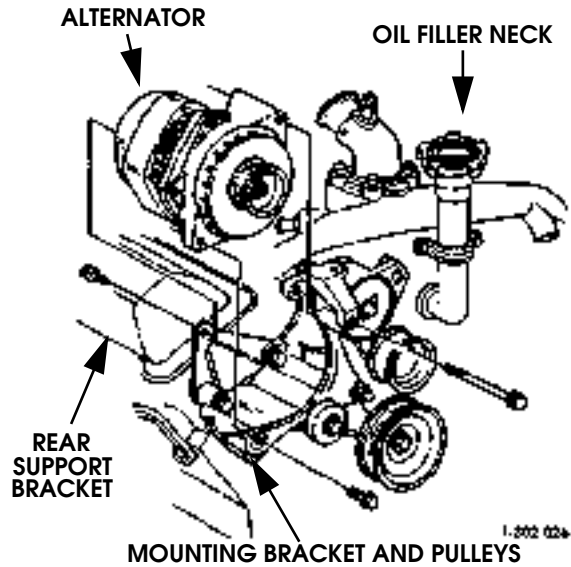

Figure 2-65: Alternator and Bracket Removal
2. Remove alternator mounting and support bracket bolts and remove both brackets (Figure 2-65).
3. Remove filler neck strap bolts and remove filler neck if desired (Figure 2-65).